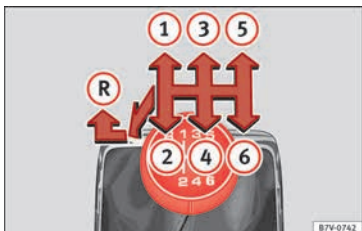

Fig. 48 Gear shift pattern of a 6-speed manual gearbox
The position of the gears is indicated on the gearbox lever » **Fig. 48**.
- With the gearbox lever in neutral, push it upwards, move it to the left as far as it will go and then forwards to select reverse » **Fig. 48** **(R)**.